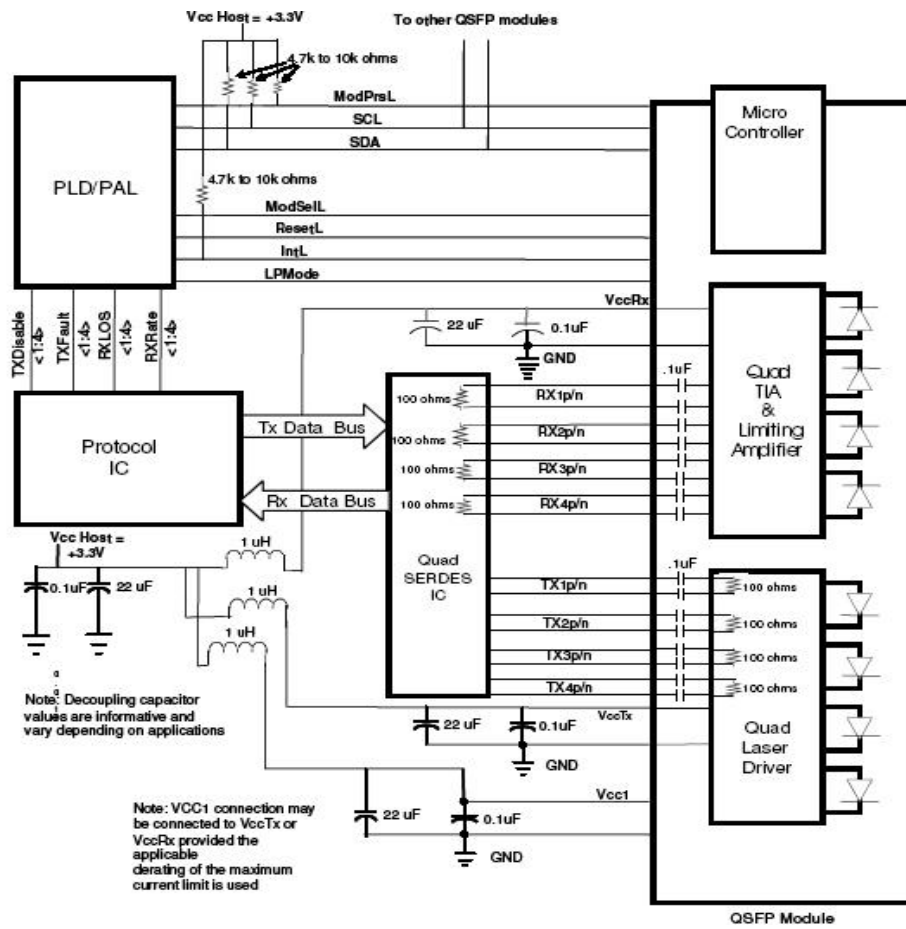

Figure 3. Module Principle Diagram
2.VccRx, Vcc1 and VccTx are the receiving and transmission power suppliers and shall be applied concurrently. Recommended host board power supply filtering is shown in Figure 3 below. Vcc Rx, Vcc1 and Vcc Tx may be internally connected within the module in any combination. The connector pins are each rated for a maximum current of 1000mA.